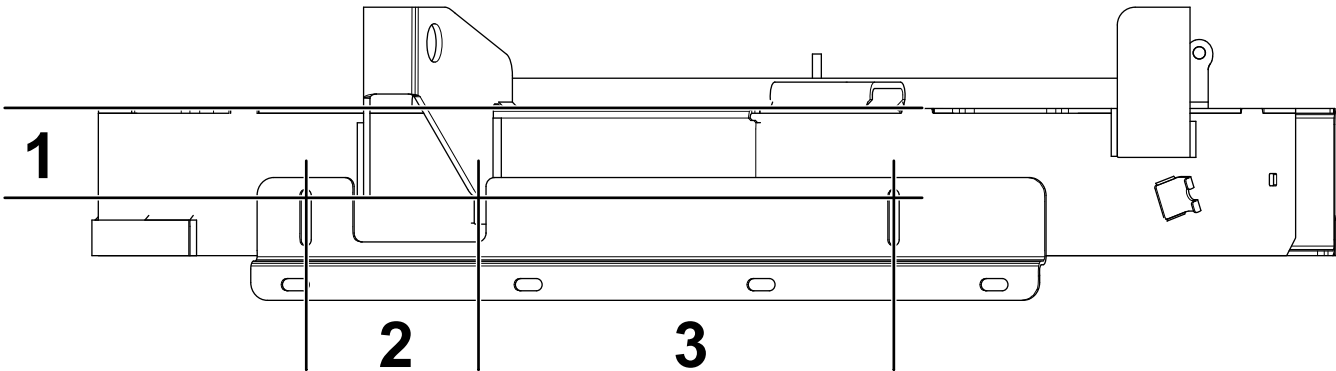

Figure 1
- Using the striping bracket as the template, drill 2 holes (9/32 inch) into the mower deck using the dimensions shown in Figure 1.